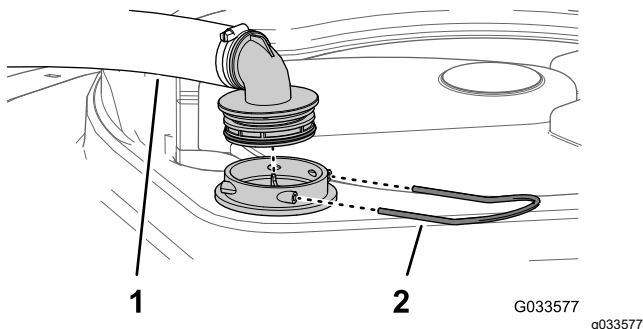

Figure 58
2. At the top of the sprayer tank, remove the retainer that secures the hose fitting attached to the large hose from the filter housing (Figure 58).
3. Remove the hose and hose fitting from the filter housing (Figure 58).